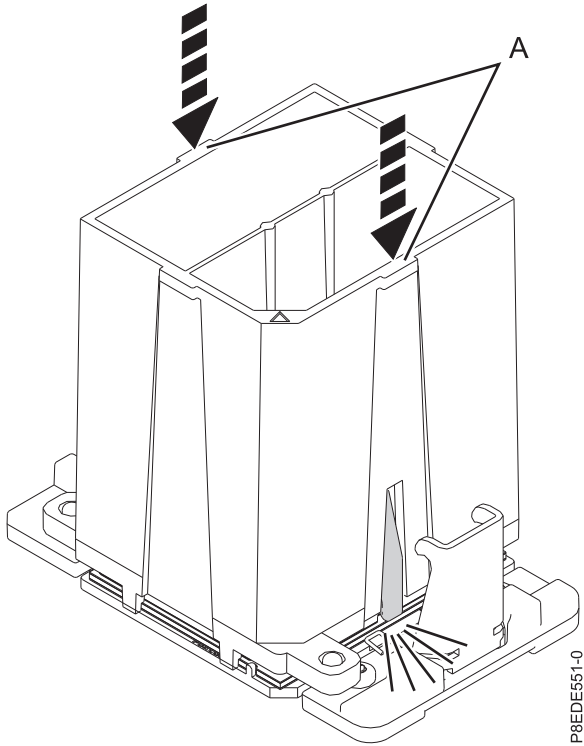

Figure 61. Locking the system processor module into the tool
- c. With the removal tool (A) sitting on top of the system processor module, push down on the tool to lock the system processor module into the tool, as shown in Figure 61 on page 66. Make sure that both of the tool jaws are locked on the system processor module. Do not press the blue release tabs until directed to do so later.